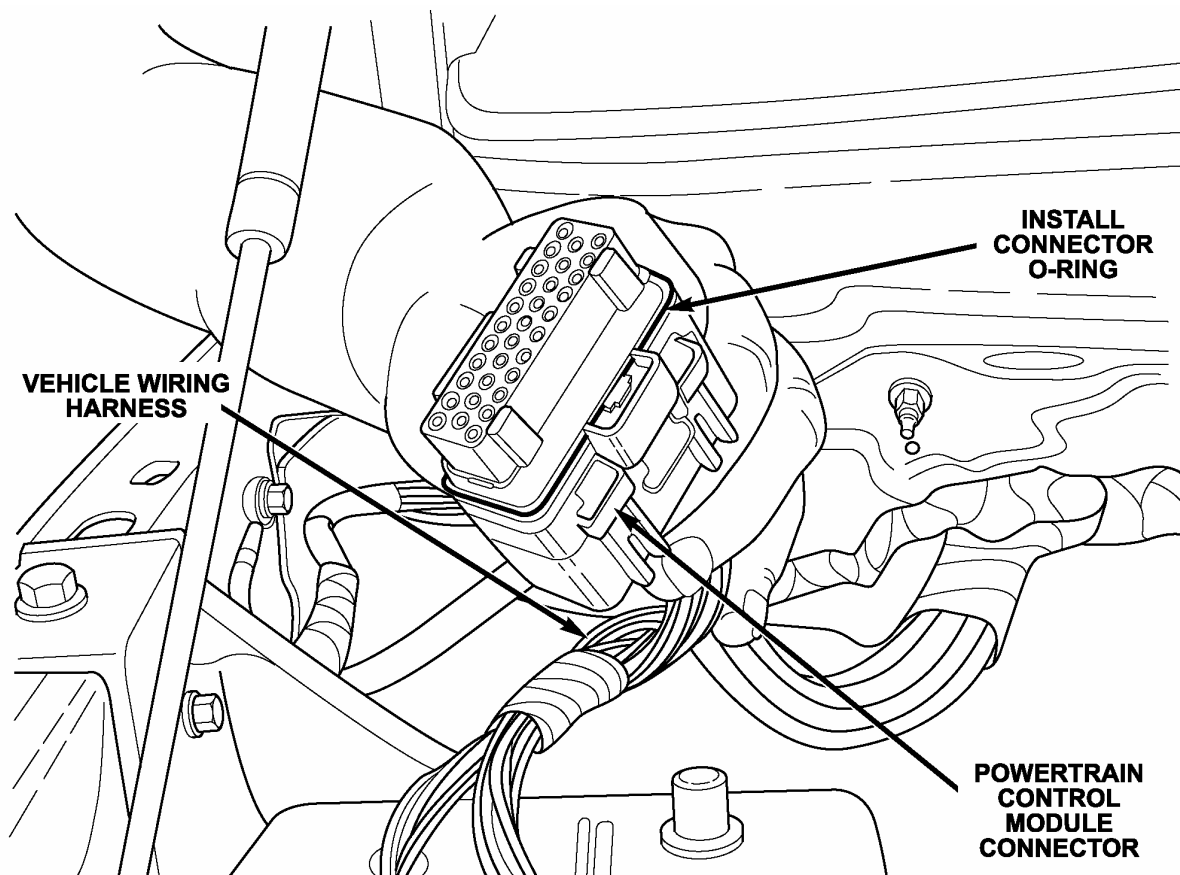

Figure 2- White Connector Shown
2. Install one of the supplied O-rings onto each of the three PCM harness connectors as shown in Figure 2.